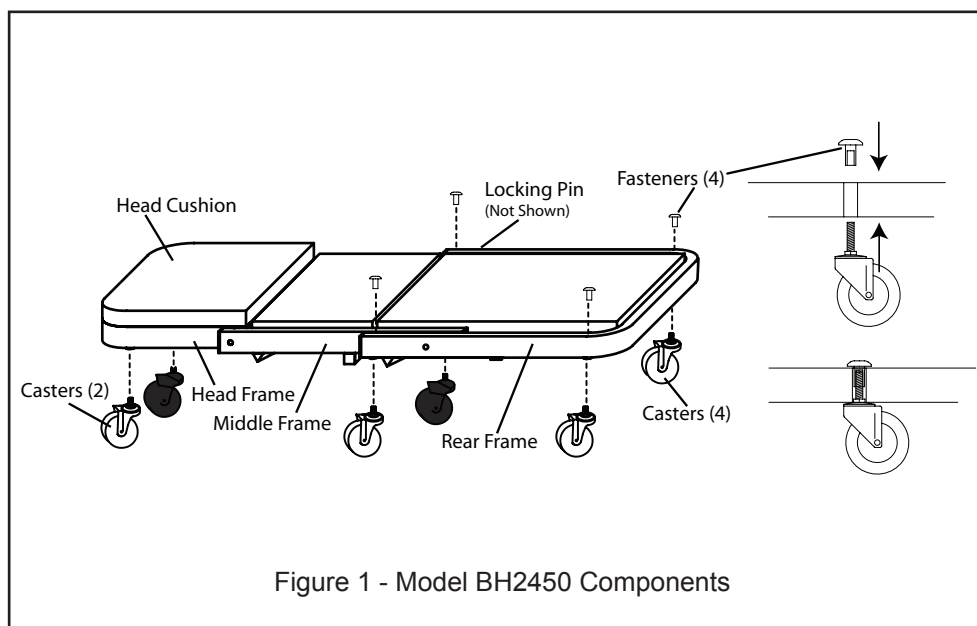

Figure 1 - Model BH2450 Components
Before beginning assembly of product, make sure all parts are present. Compare parts with package contents list and Figure 1 illustration. If any part is missing or damaged, do not attempt to assemble, install or operate the product. Contact customer service for replacement parts.
ASSEMBLY INSTRUCTIONS (see Figure 1)
1. Carefully unfold the creeper as seen in Fig. 1.
3. Use a 5 mm hex-key to attach the remaining casters to the Rear Frame. Insert the threaded fasteners from above, the casters from below (as seen in Fig. 1), then hand tighten with hex key.